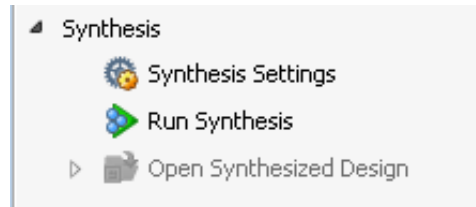

Figure 1-1: Flow Navigator: Synthesis
1. Click the **Synthesis Settings** button, as shown in Figure 1-1, page 8.